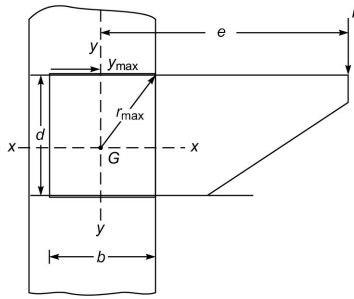

Fig. Q. 71
71. Figure Q. 71 shown below is a welded connection of a bracket. In this if throat thickness of weld
72. In Fig. Q. 71, maximum bending stress in weld is